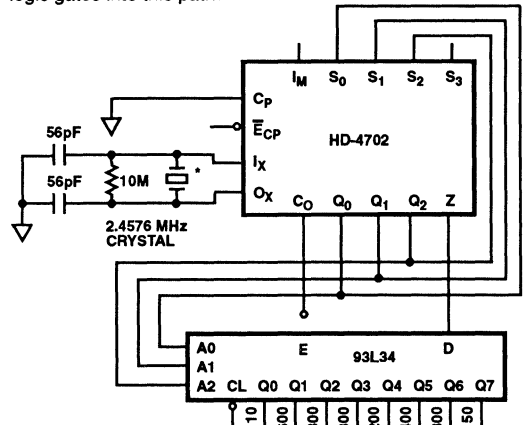

FIGURE 2. BIT RATE GENERATOR CONFIGURATION WITH EIGHT SIMULTANEOUS FREQUENCIES.
Figure 2 shows a simple scheme that generates eight bit rates on eight output lines, using one HD-4702 and one 93L34 Bit Addressable Latch. This and the following applications take advantage of the built-in scan counter (prescaler) outputs. As shown in the block diagram, these outputs (Q₀ to Q₂) go through a complete sequence of eight states for every half-period of the highest output frequency (9600 Baud). Feeding these Scan Counter Outputs back to the Select Inputs of the multiplexer causes the HD-4702 to interrogate sequentially eight different frequency signals. The 93L34 8-bit addressable Latch, addressed by the same Scan Counter Outputs, re-converts the multiplexed single Output (Z) of the HD-4702 into eight parallel output frequency signals. In the simple scheme of Figure 2, input S₃ is left open (HIGH) and the following bit rates are generated: